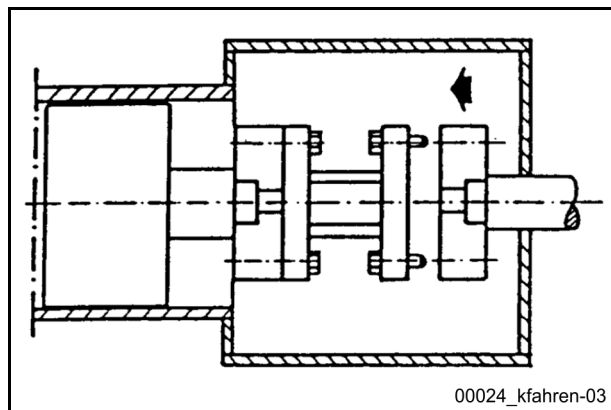

Fig. 351 Insert distance piece
- Insert the distance piece and screw it onto the pumping piston (**Fig. 351**).